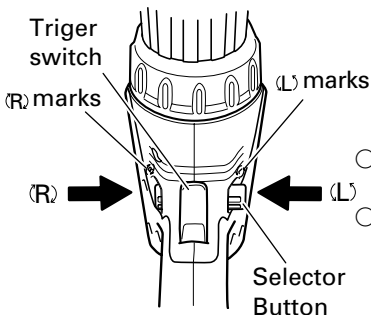

Fig. 6
The L-side of the selector button is pushed to turn the bit counterclockwise. (See Fig. 6). (The (L) and (R) marks are provided on the body.)